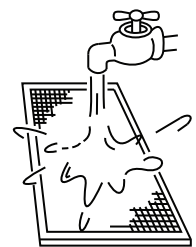

Fig. 5.4
- The air-in side should face down when using water. (**See Fig. 5.4**)